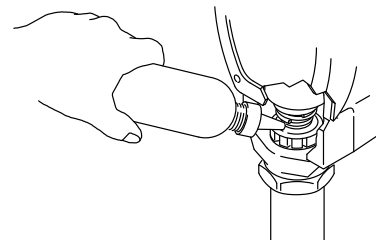

Fig. 40
5. Tighten the packing nut/ wet-cup just enough to stop leakage, but no tighter. Fill the wet-cup/packing nut 1/3 full with Graco TSL. See Fig. 40.